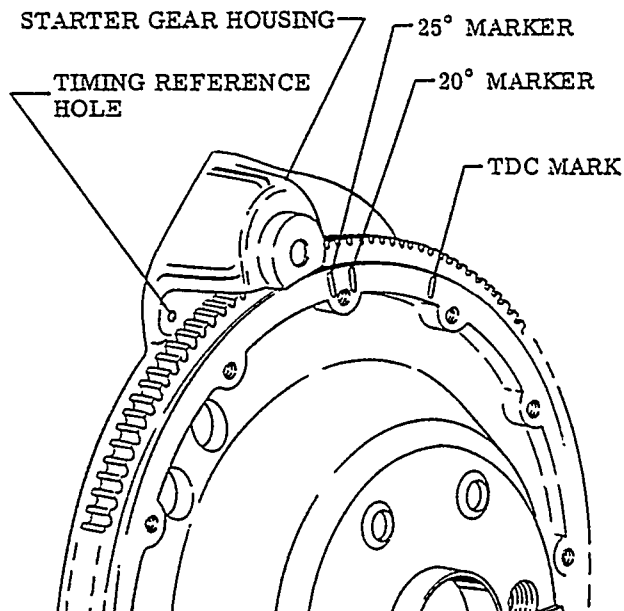

Figure 6-2A. Magneto Timing Reference Points
b. Continue turning the crankshaft until the 20° BTC advance timing mark, on the forward face of the starter ring gear, is in alignment with the small hole located on the face of the starter housing (see illustration Figure 6-2A).